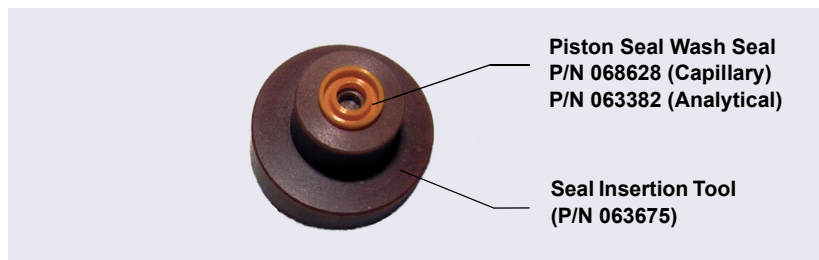

Figure 10-9. Piston Seal Wash Seal and Seal Insertion Tool
- b. Slide the new seal wash seal, with the open side of the seal facing upward, onto the seal insertion tool (P/N 063675) (see Figure 10-9).